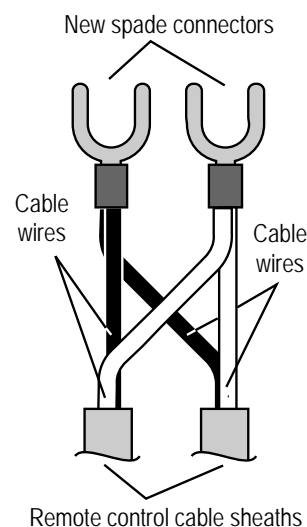

Fig. 3
3. Cut the spade connectors from 2 of the controller cables to be connected to the appliance (4 spade connectors should be cut off) and discard. Connect the wires from these two cables and terminate into two new spade connectors as shown. Spade connectors are available from your local electrical component retailer. (Fig. 3)